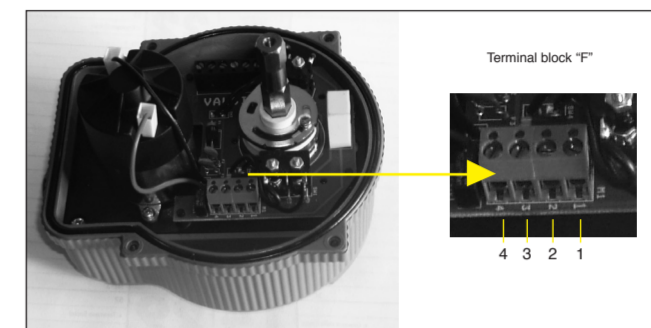

Fig.2 Plate for supply 12 and 24V AC/DC and particular of terminal block "F"
- Remove position indicator (B) by loosening the screw (C).
- Screw the fasteners (D) to remove the upper cover (A).
- Raise up the cover (A) carefully to avoid to damage the internal electric parts.
- Turn in the electric supply cable (diam. 5-10 mm / 0,20-0,40 inch) by the properly cable gland (E)(PG11).
- Proceed to connect the cable in its proper terminal-block (F) by looking at the wiring diagram (please also review the tag you find inside the cover) according to the different voltage (see 4.2 and 4.3).
4.2 Electrical connection (fig. 2)